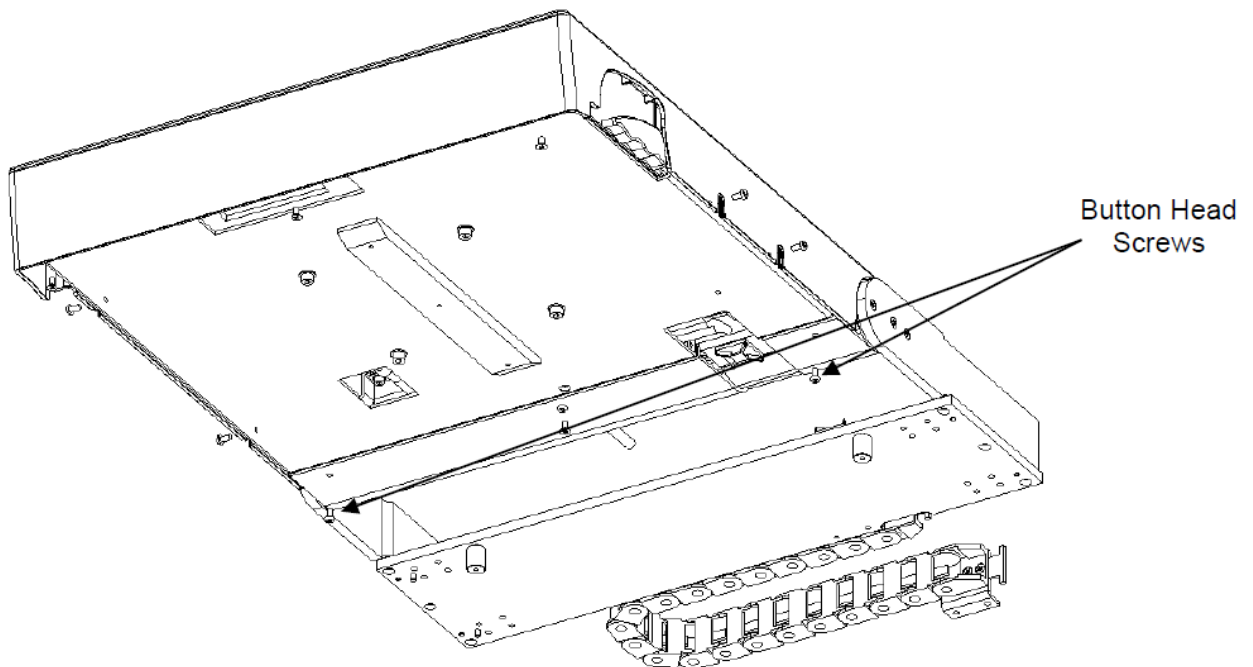

Figure W-1: Location of Touchscreen Assembly Screws
2. Undo the screws on the underside of the Touchscreen (Figure W-1).